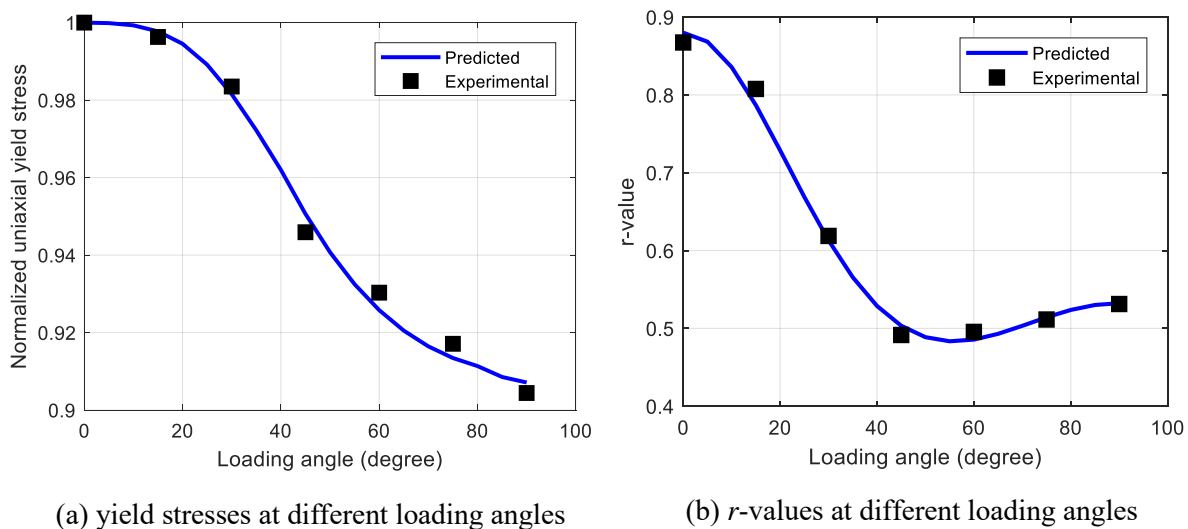

Figure 2 Yield stresses and r -values predicted by LS-DYNA[®] as compared to experimental data
The parameter set (c'_1, c'_2, c'_3, c'_6) optimized by LS-OPT® is listed in Table 2 and the predicted yield stresses based on this parameter set are compared with experimental values in Figure 2(a).
The values of $(\hat{c}_1, \hat{c}_2, \hat{c}_3, \hat{c}_6)$ after LS-OPT[®] optimization are listed in Table 2 and Figure 2(b) plots the predicted r -values based on the optimized parameter set as compared to the experimental values. As a reference, we also listed the anisotropic parameters for AA2008-T4 found from the literature [3] in Table 2. As expected, the values are close but not identical, due to the fact that (1) results by LS-OPT[®] are based on LS-DYNA[®]'s implementation of the theoretical model, i.e., material type 263; (2) different numerical procedures are employed during the optimization process; (3) optimization usually finds a local minimum which is dependent on the search range and initial guess.